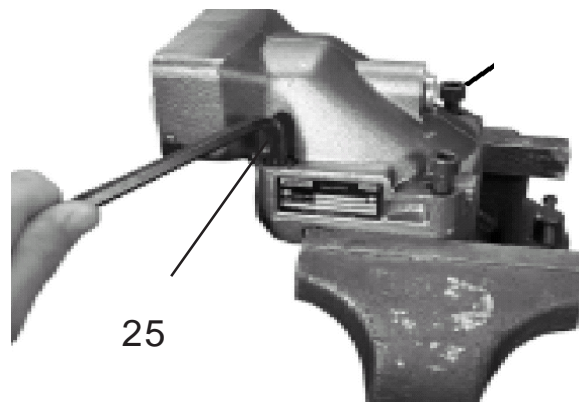

Figure 2
**2. Remove Barrel Housing.** Clamp Motor in a vise as shown in figure 1. There are 4 bolts (item 25) located on top of the Barrel Housing Assembly (item 1). Remove these four bolts. Lift Barrel Housing (item 1) as shown in Figure 2. Use caution to make certain the valve plate (Item 2) doesn't fall out when lifting the Barrel Housing off. By lifting straight up you should be able to use your finger to make certain the valve plate (item 2) does not fall out and get damaged. Make a note of which side of Valve plate is up and which side is down, this will be important during reassembly.